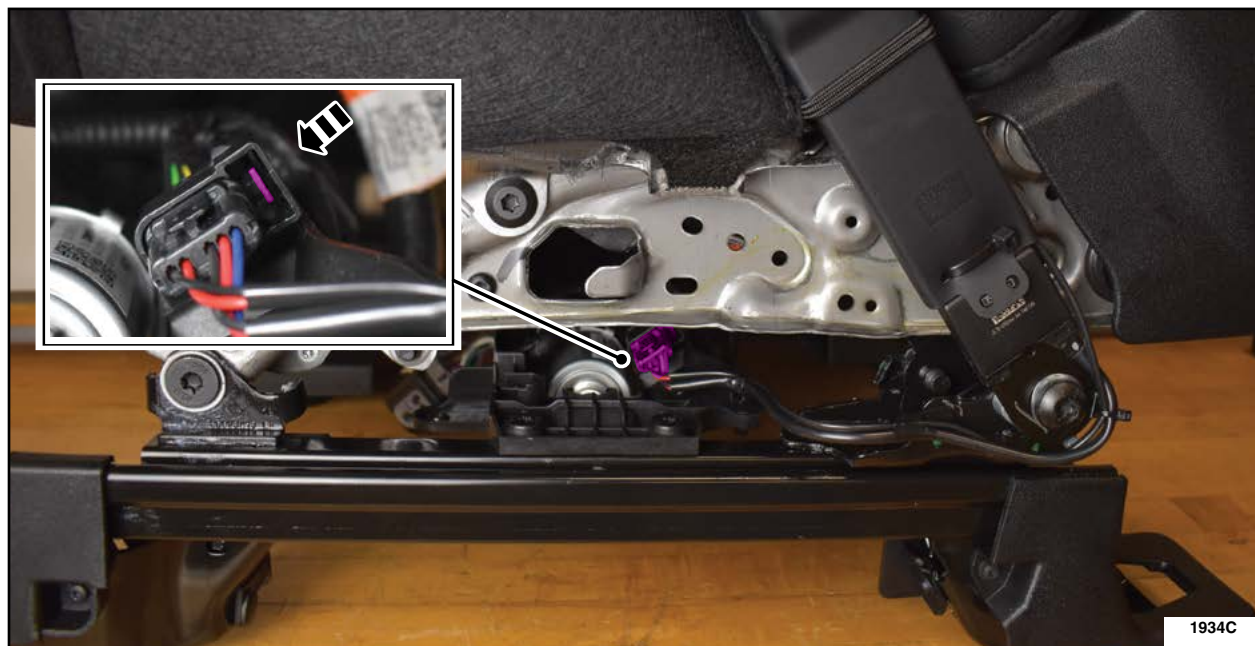

FIGURE 3
3. Disconnect the seatbelt buckle electrical connector. See Figure 3.
7. Connect the seatbelt buckle electrical connector. See Figure 3.